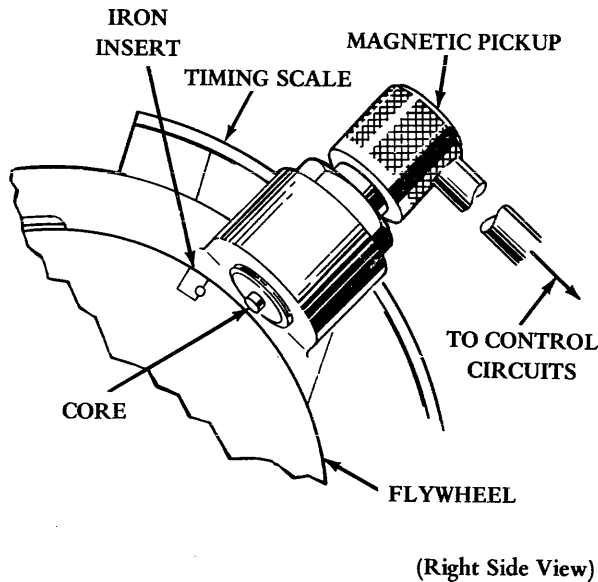

Figure 5 - Magnetic Pickup
3.05 The magnetic pickup (Figure 5) generates a sync pulse with each revolution of the flywheel. This pulse starts the transfer of the code combination from the signal converter storage register in the receiver set to the reperforator magnets.